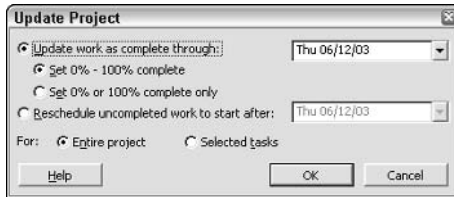

Figure 12-17: Use the Update Project dialog box to update your project.
3. Choose Tools ⇨ Tracking ⇨ Update Project to display the Update Project dialog box, as shown in Figure 12-17.